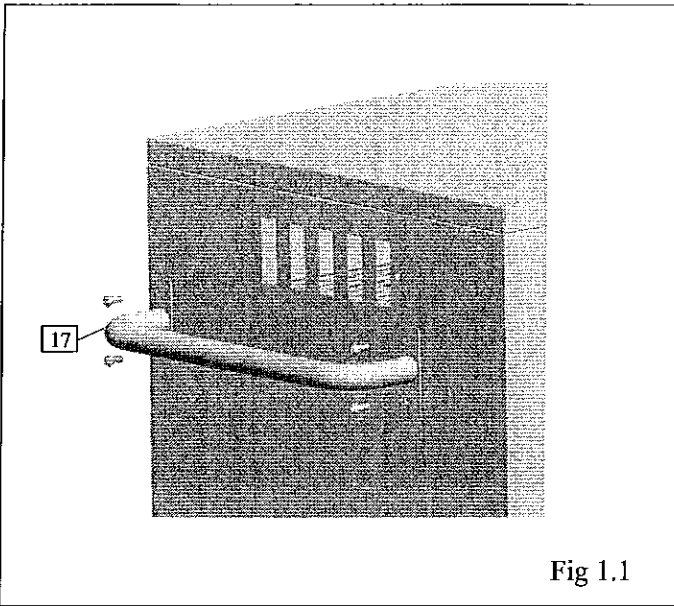

Fig 1.1
Attach the Moving Handle to the back of the Smoker, using (4) M6 x 15 bolts. Fig 1.1